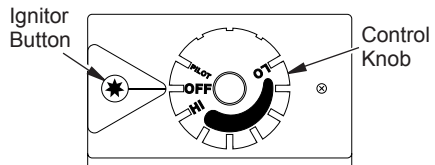

Figure 27 - Control Knob In The OFF Position
4. Wait five (5) minutes to clear out any gas. Then smell for gas, including near the floor. If you smell gas, STOP! Follow "B" in the safety information, column 1. If you don't smell gas, go to the next step.
5. Turn control knob counterclockwise ↺ to the PILOT position. Press in control knob for five (5) seconds (see Figure 27).